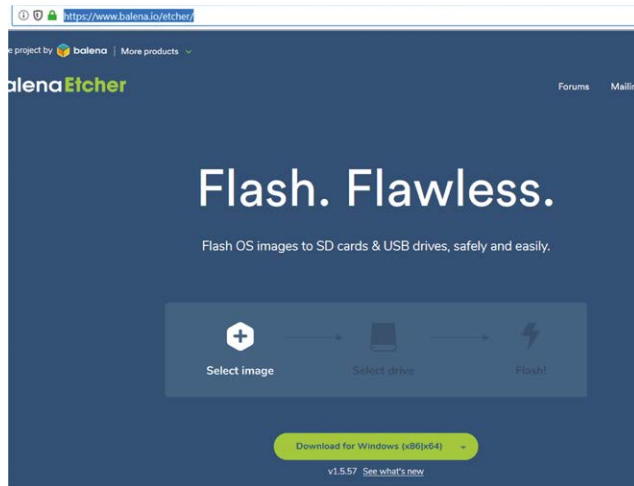

Figure 2.2 Download Etcher
- Download the Etcher program to your PC to flash the disk image. The link is (see Figure 2.2):